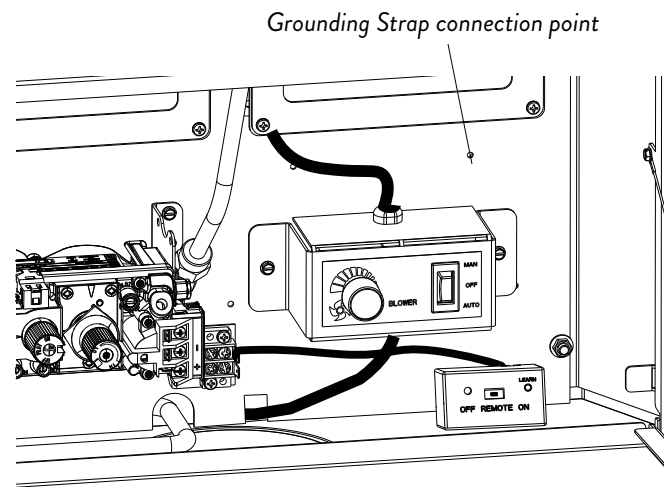

Figure 10.12. Blower Control Box and power routing.
9. Secure the Green Grounding Strap to the rear of the control box using the supplied sheet metal screw. See fig 10.12
10. Attach the Blower Control Box to the pilot holes in the rear wall in the controls compartment using two sheet metal screws provided. See fig 10.12.